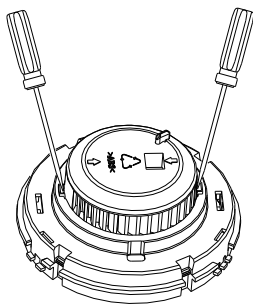

Fig. 6
a) Open the top cover of detector, and draw out the sensing chamber by slightly lifting its two sides using a straight screwdriver, as shown in Fig. 6.